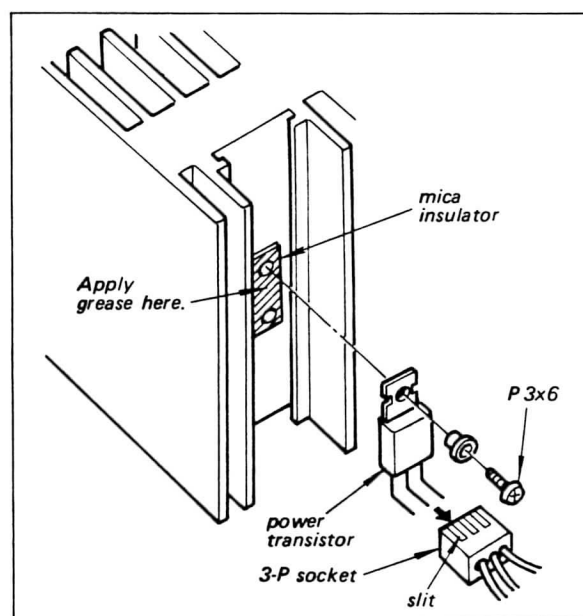

Fig. 2-5. Power transistor removal
2. Pull out the 3-P socket from the power transistor as shown in Fig. 2-5.
3. Remove the screw shown in Fig. 2-5.
7. Apply a silicone grease on the mica insulator as shown in Fig. 2-5, when installing it.